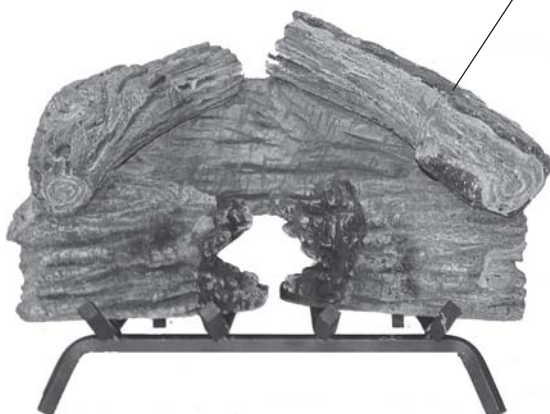

Figure 16 - Installing Right Side Middle Log (#5) and Left Top Log (#7)
6. Install right side middle log (#5). *See Figure 16.*